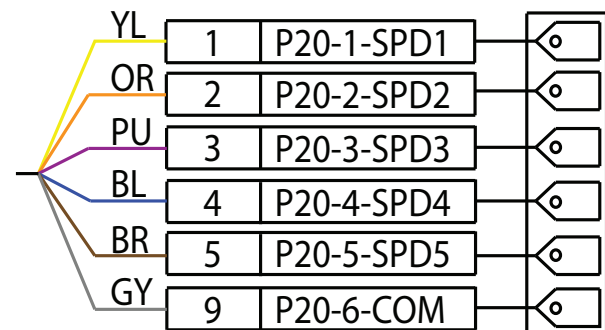

Fig. 42 — 5 Speed Settings Constant Torque ECM Pin Diagram
3. Change the torque tap wire to on the molex plug to one of the three or five speed settings. (See Fig. 42 and 43.)